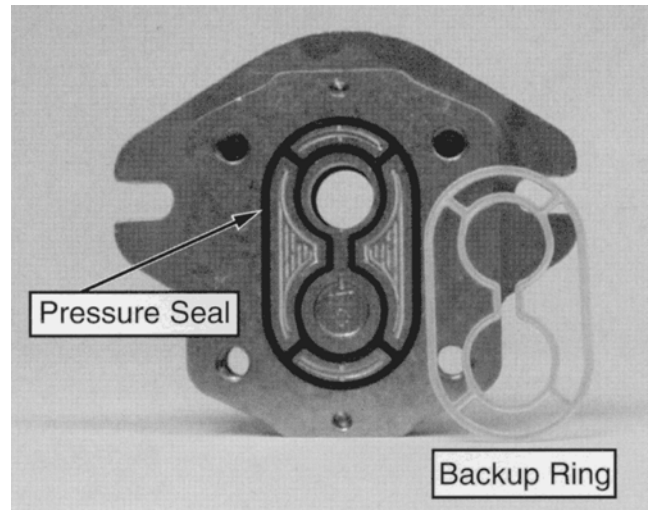

Figure 97
8. Carefully remove and discard O-rings, pressure seals and back-up rings (Fig. 97) from motor. Do not cause any damage to the machined grooves during the removal process.